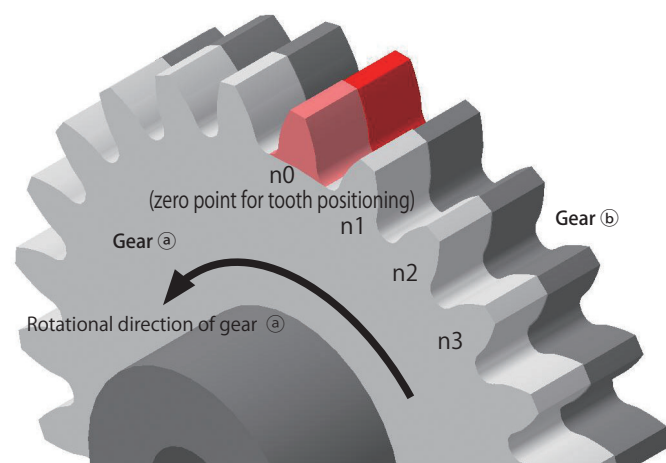

Fig. 2 Zero point for tooth positioning (n0)
Considering the point at which the spring extends and the reference teeth of gear ① and gear ② align when gear ① is rotated with gear ② fixed as the zero point for tooth positioning (n0), use it as the reference position for setting the transfer torque. (Fig. 2)